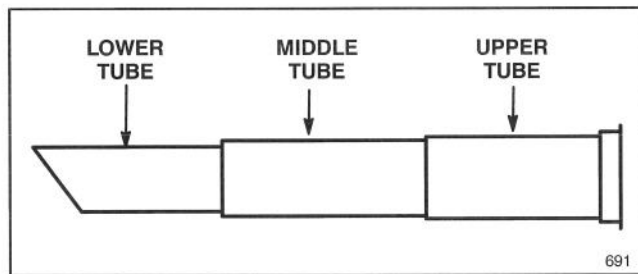

Figure 9
7. Slide upper, middle, and lower tubes together as shown in Figure 9.
1. Remove the lower and middle vacuum tubes from the upper vacuum tube (Fig. 9).